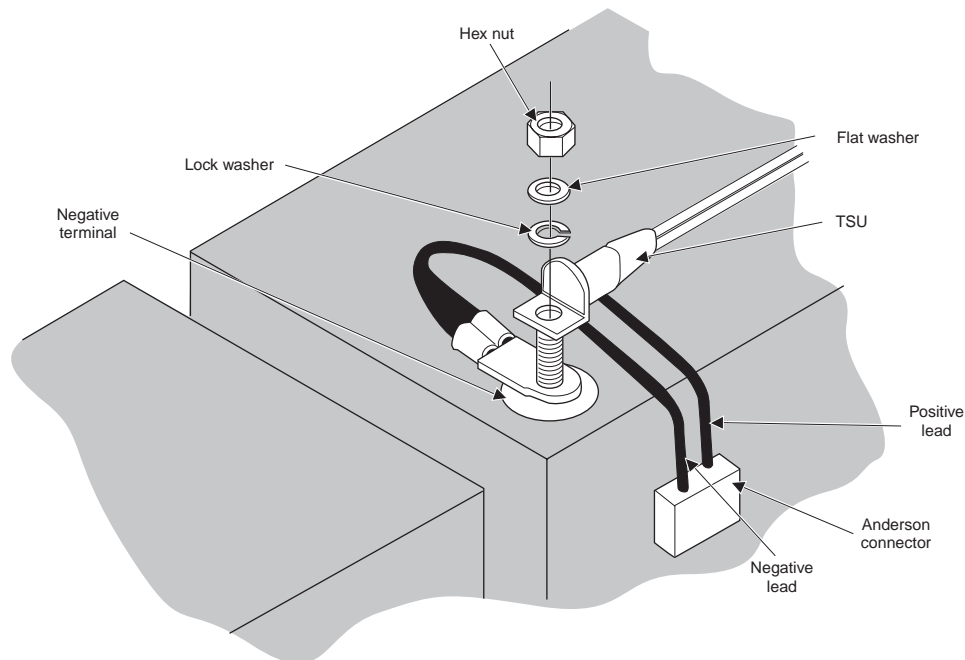
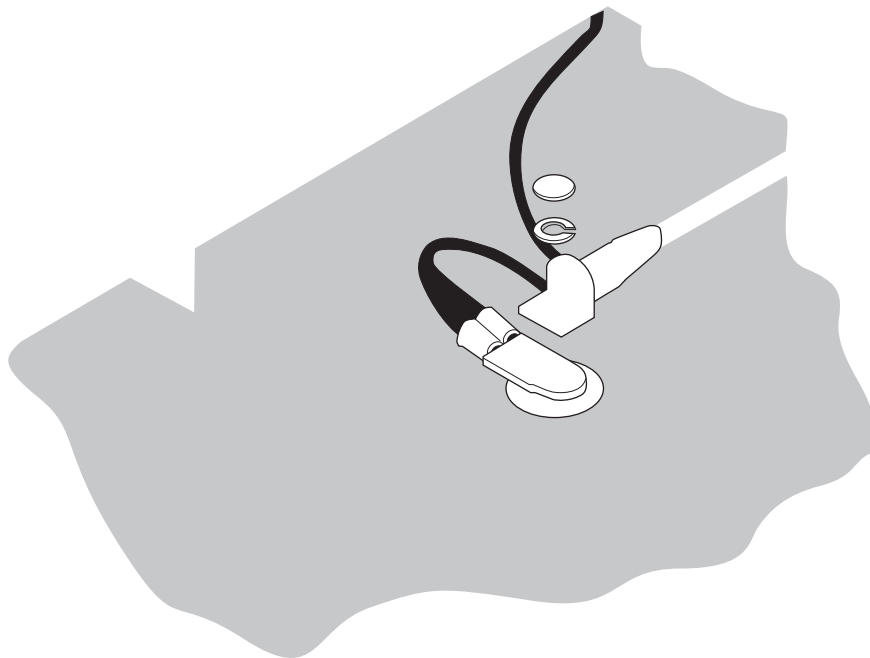

Figure 25. Battery Cable Installation of Stud Terminal
Figure 26. Battery Cable Installation of Screw Terminal
- 20** Position the battery cable ends as shown in Figure 25 or Figure 26 on page 33. Tighten both battery terminals to a torque of 65-70 in-lb (735-790 [N-cm]) maximum.